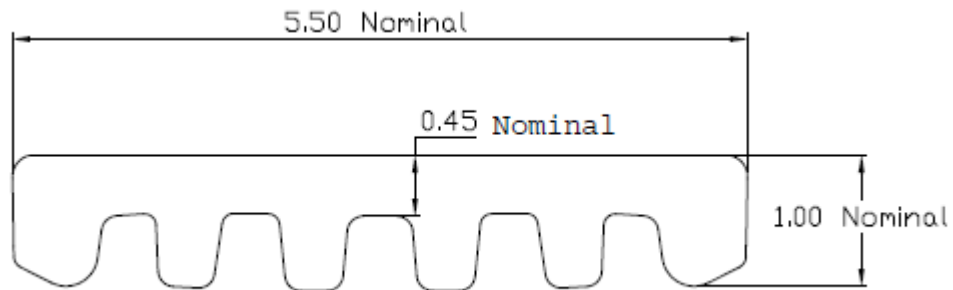

FIGURE 1 – ENHANCE® BASICS AND NATURAL SOLID EDGED DECK BOARD
3.2 Solid and Grooved Edged boards measure a nominal 1 in. thick and 5-1/2 in. wide and have five 9/16 in. high flutes running the entire length along the bottom of the deck board. Grooved edge deck boards additionally include 5/16 in. deep by 1/8 in. high grooves on each of the long edges. See Figures 1 and 2.